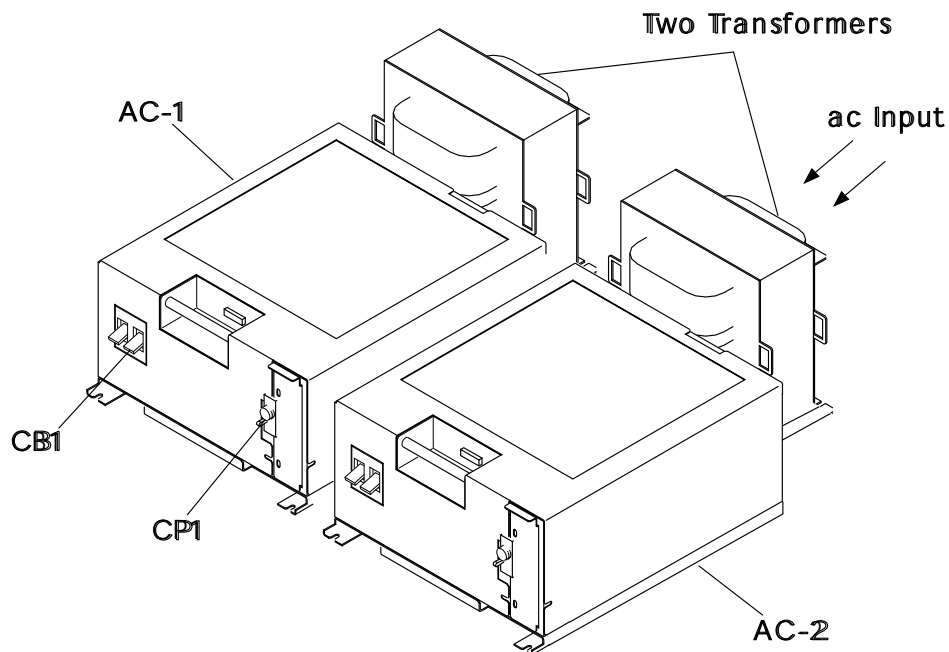

Figure B-12. 3746-900 Power Area with 2 AC (AC-2 is Optional)
- Step 2. ____ **Switch** the main circuit breaker CB1 **OFF** at the 3746-900 primary power box. (See Figure B-12 on page B-9 or Figure B-13 on page B-9, if the optional power feature is installed)